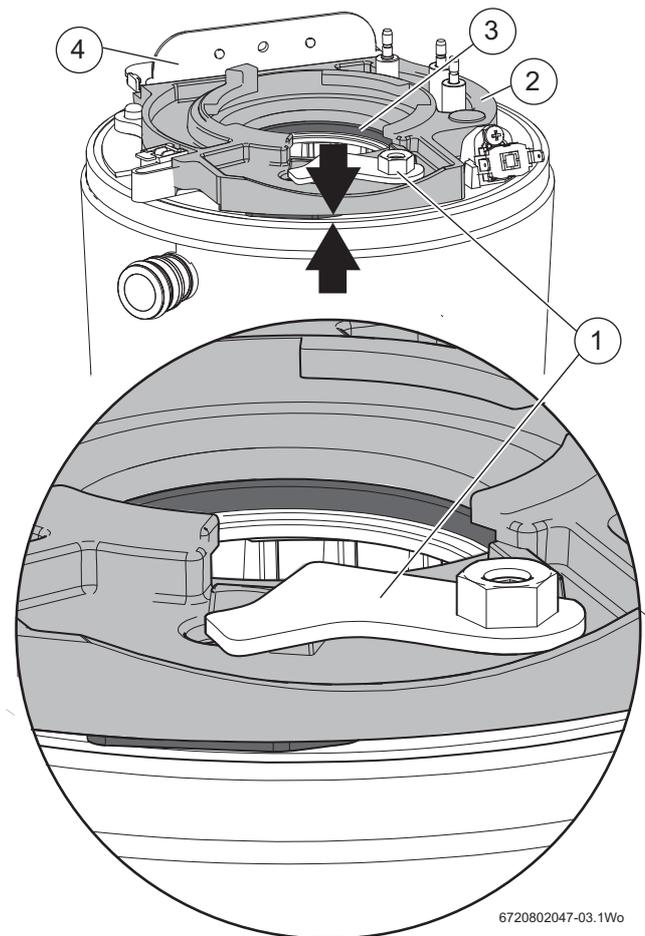

Fig. 105 Initial location of the clamping plate
- ▶ Ensure that the retaining plate [1] is in the position shown in figure 105
- ▶ Initially there will be a gap between the clamping plate and the top of the heat exchanger, refer to figure 105